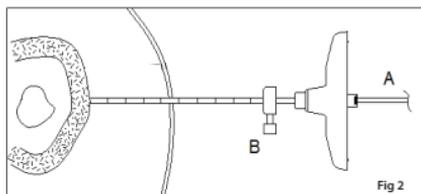

Fig 2
**FIG. 2** Unlock and remove the Drill Insert (C) from the Cutting Cannula (B). Slide the Cutting Cannula (B) down over the Guide Rod (A) until in contact with the skin. Introduce, rotating counterclockwise, the Cutting Cannula (B) until in contact with the bone.
**Note:** To protect soft tissue, a counterclockwise rotation must be applied during Cutting Cannula (B) insertion through the soft tissue.